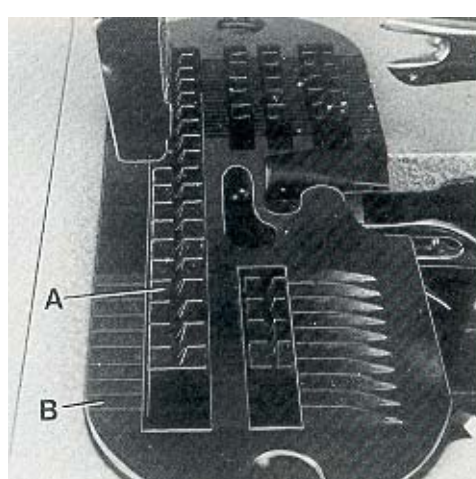

Fig.17
The lower feed dog (A, Fig. 17) should center laterally in the slots of throat plate (B).